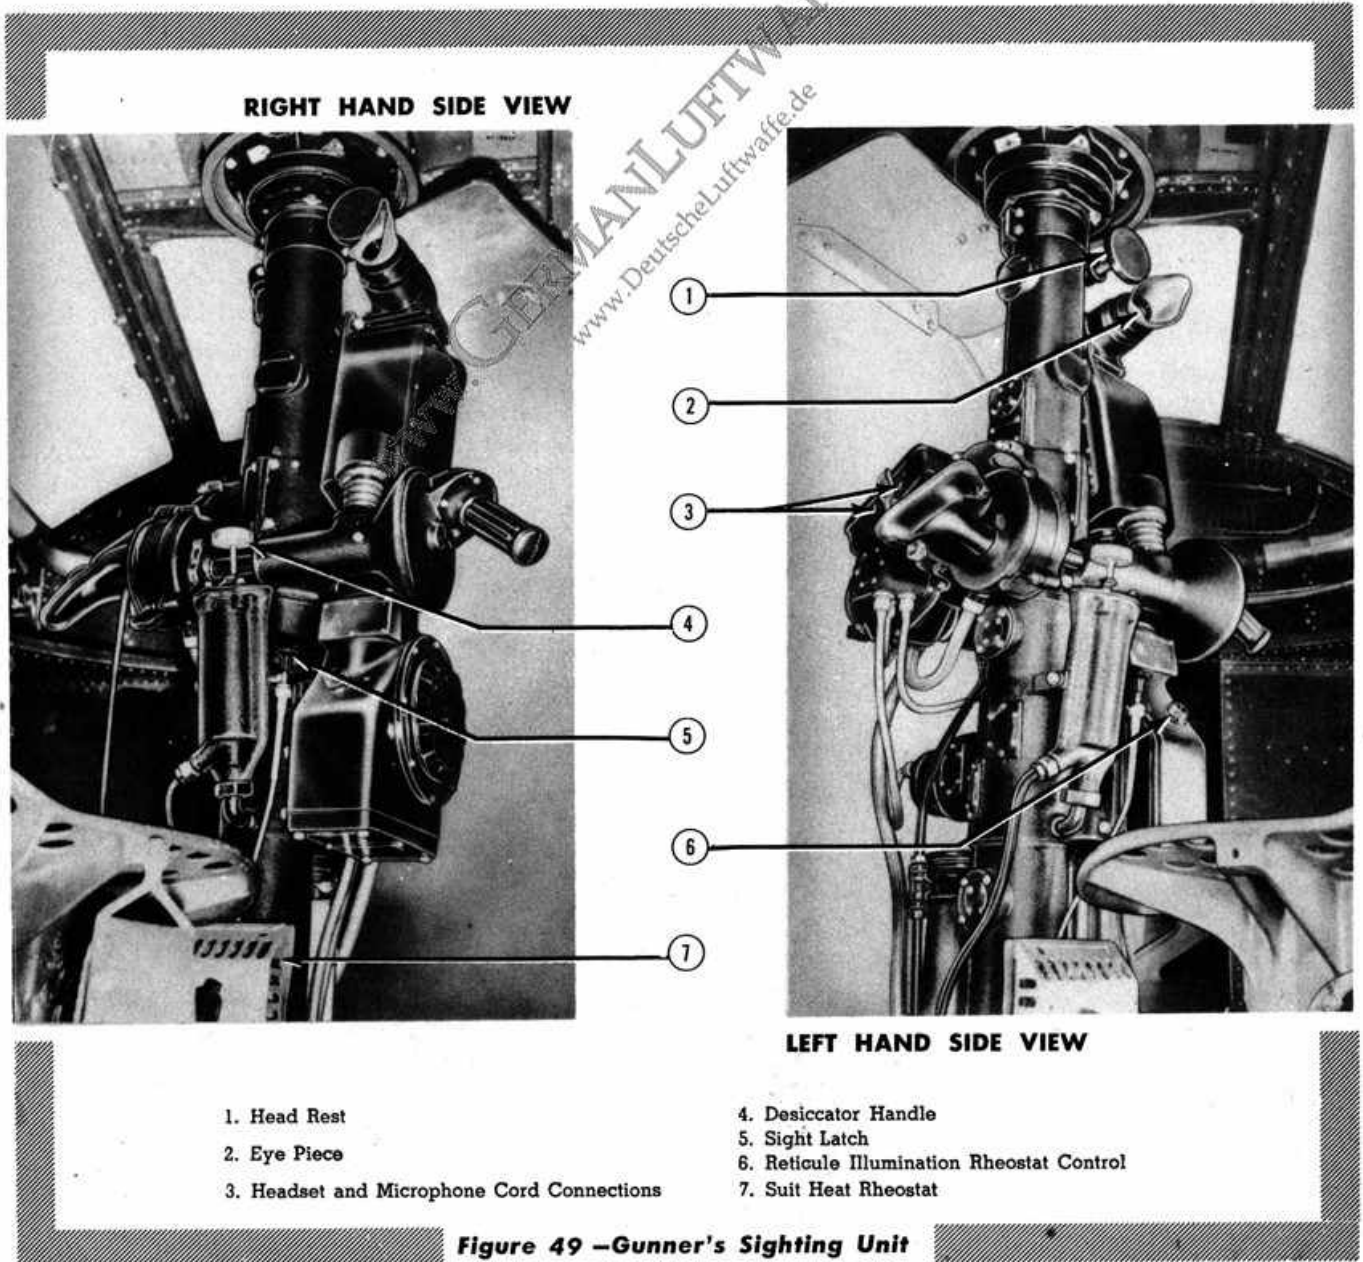
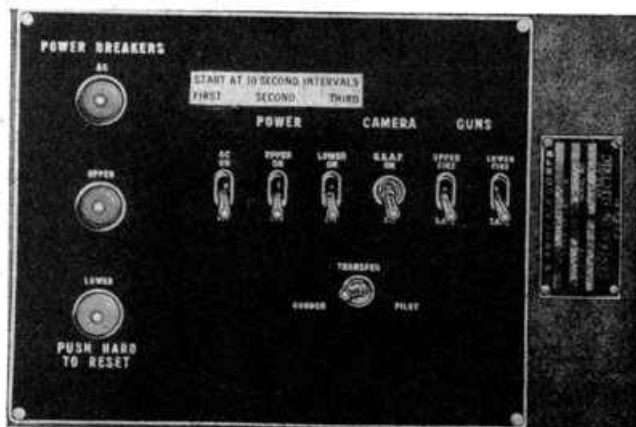

Figure 49 -Gunner's Sighting Unit
Figure 51—Turret Control Box
(1) GENERAL.—The upper turret and the lower turret, if installed, are remotely controlled from the sighting station (*figure 49*). When power is directed to the turrets, the turret guns are automatically aligned with respect to the position of the sight unit. The sight unit is manually rotated by the gunner. Every movement of the sighting unit results in a similar movement of the turrets within the turret limits (provided the turret power switches (*figure 51*) are ON). If cold weather conditions exist, the turrets should be operated frequently to prevent sluggishness. On some modified airplanes equipped with radar, both the upper and lower turrets and the sighting stations are omitted.
2. SIGHT UNIT LATCH CONTROL. (5, *figure 49*).—The sight unit (and turret guns) may be latched in either the forward or the aft position by rotating the turrets to the desired position, then pushing down the sight unit latch control knob.
3. RETICULE ILLUMINATION RHEOSTAT CONTROL. (6, *figure 49*).—The reticule illumination is controlled by the rheostat control knob. The intensity of illumination at which the rheostat is set is dependent upon the prevailing atmospheric conditions.
4. DESICCATOR PUMP CONTROL. (4, *figure 49*).—The humidity within the sight unit is controlled by the use of the desiccator pump. Moisture can be prevented from forming or moisture can be eliminated from within the sighting unit by actuating the pump control.
(c) TURRET CONTROL BOX. (Figure 51.)